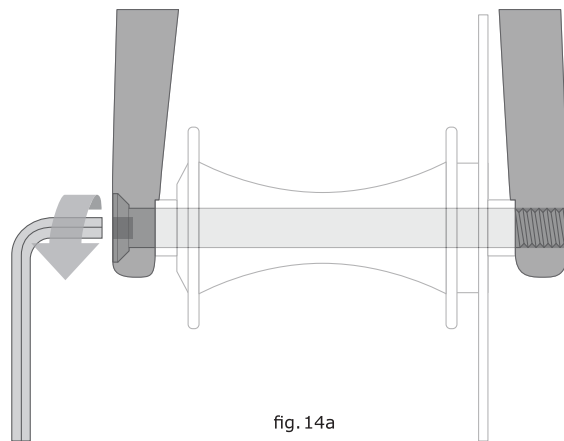
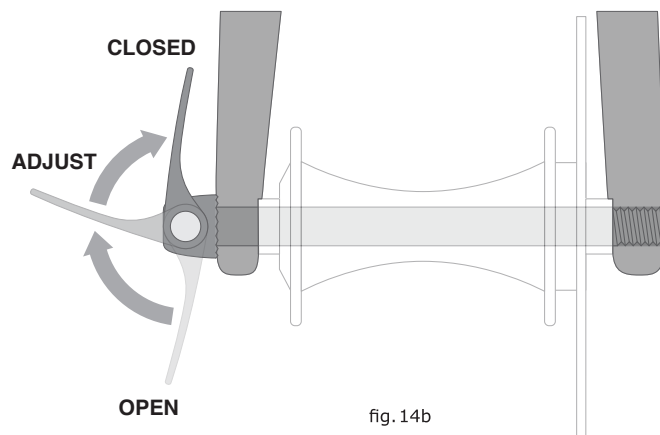

fig. 14a
fig. 14b
a. Adjusting the thru-axle mechanism [**fig. 14a & 14b**]
The thru-axle is inserted through the unthreaded hole in the frame or fork's dropout, through the wheel hub, and is threaded directly into the opposing dropout by tightening the thru-axle. Common installation methods may use an Allen hex key [**fig. 14a**] or a cam lever [**fig. 14b**]. Please refer to the manufacturer's instructions for specific information about your thru-axle's operation, including correct torque specifications or lever adjustment information.
(4) If your bike has a thru-axle front wheel mounting system [**fig. 14a & 14b**], loosen and remove the thru-axle according to the manufacturer's instructions, then remove the wheel.
(c) With a thru-axle system, tighten the thru-axle [fig. 14a & 14b] according to the manufacturer's instructions.
(5) If your e-bike has a thru-axle rear wheel mounting system [fig. 14a & 14b], loosen and remove the thru-axle according to the manufacturer's instructions.
(6) Push the rear wheel forward far enough to be able to remove the chain from the rear sprocket, then lift the rear wheel off the ground a few inches and remove it from the rear dropouts.
(c) If you have a threaded through-bolt cam-action system [fig. 14b], make sure that the threads of the through-bolt are engaged and evenly threaded within the receiving dropout hole or nut before moving the cam lever upward and into the CLOSED position. To apply enough clamping force, you should have to wrap your fingers around the